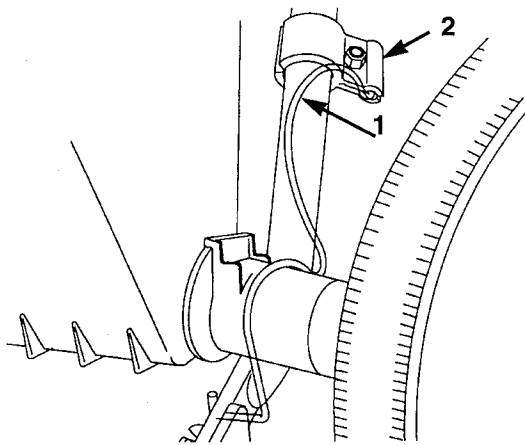

Figure 62
- D. Rotate the spring forward and insert its end into the hold-down clamp (Fig. 62).
1. Pull the hold-down spring out of the clamp (Fig. 62).